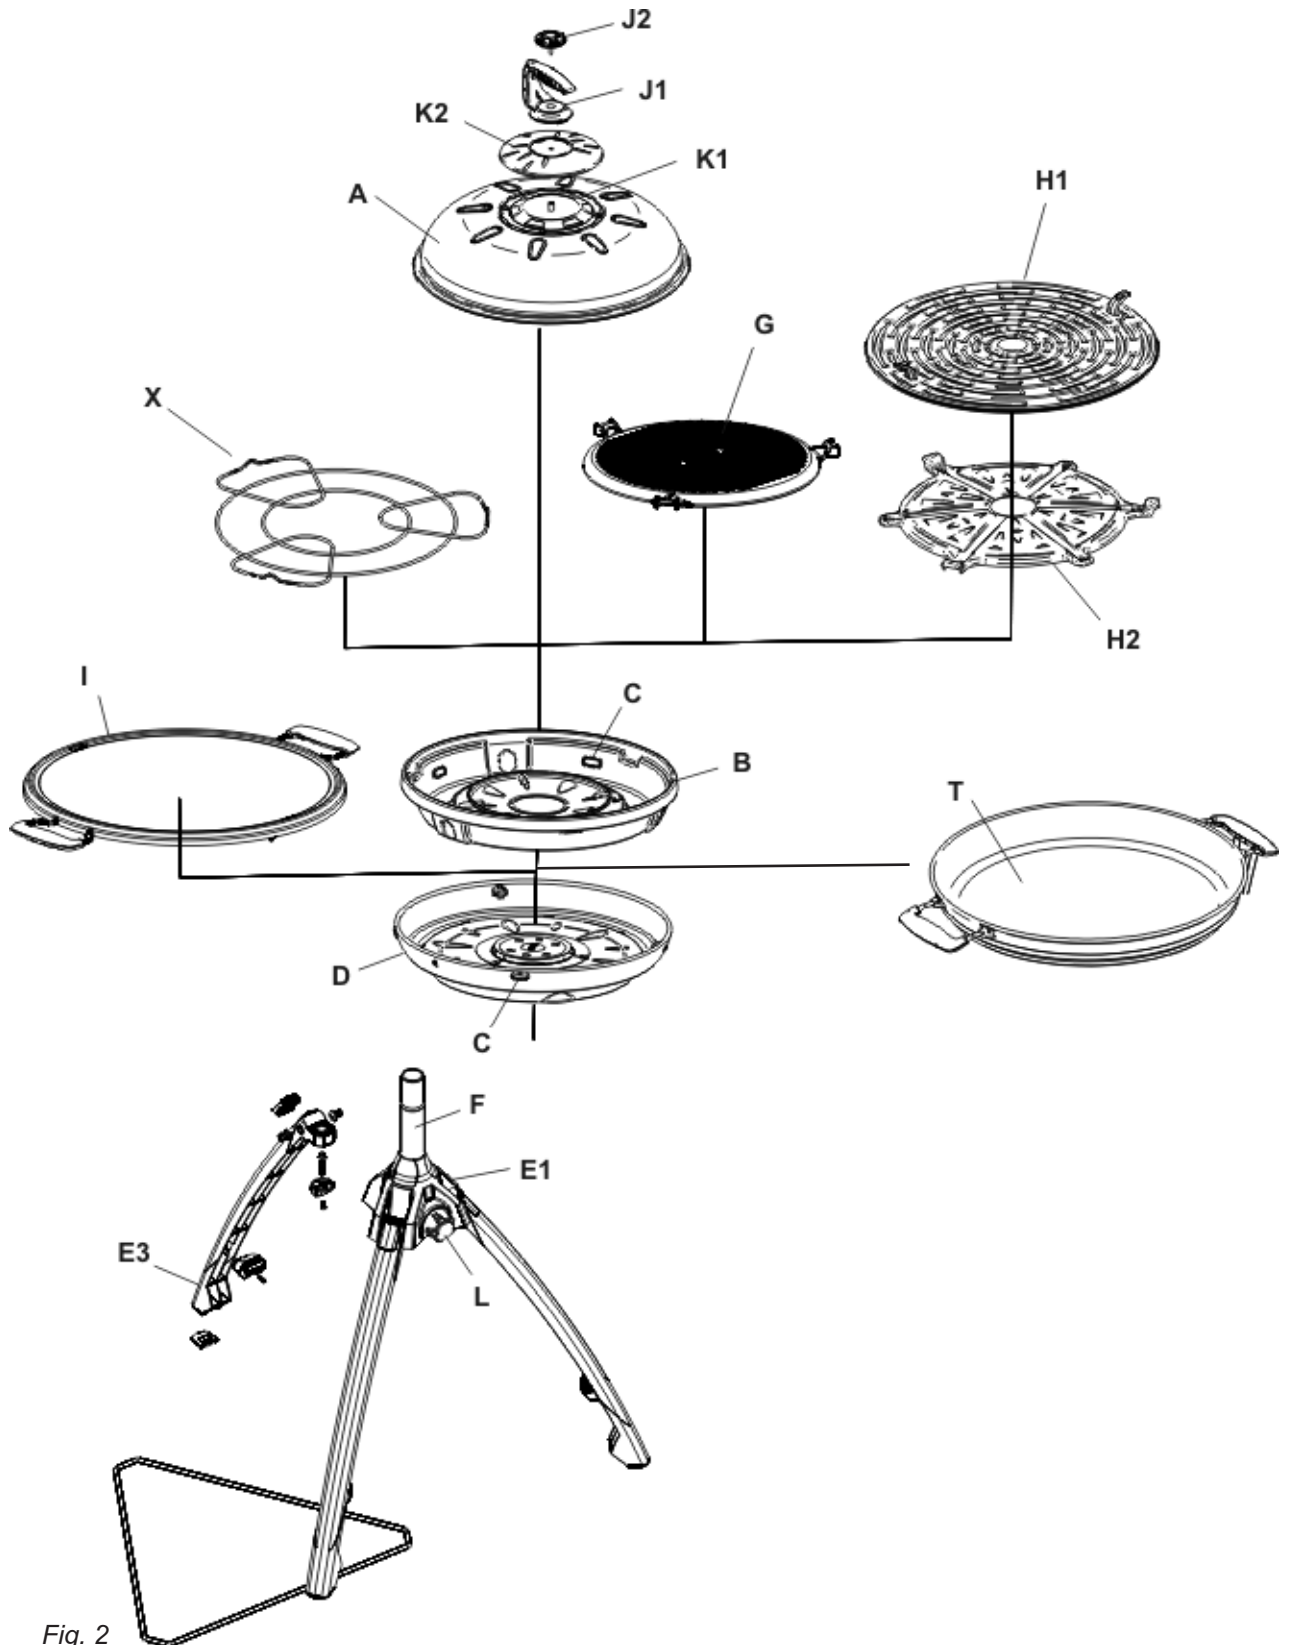

Fig. 2
- The flame may be observed through the Inspection Hole (C) (Fig.2) provided for this purpose in the side of the Fat Pan (B).
- After use, first close the valve on the gas container (where applicable). When the flame has extinguished, close the valve (O) on the appliance by turning the Control Knob (L) fully clockwise.